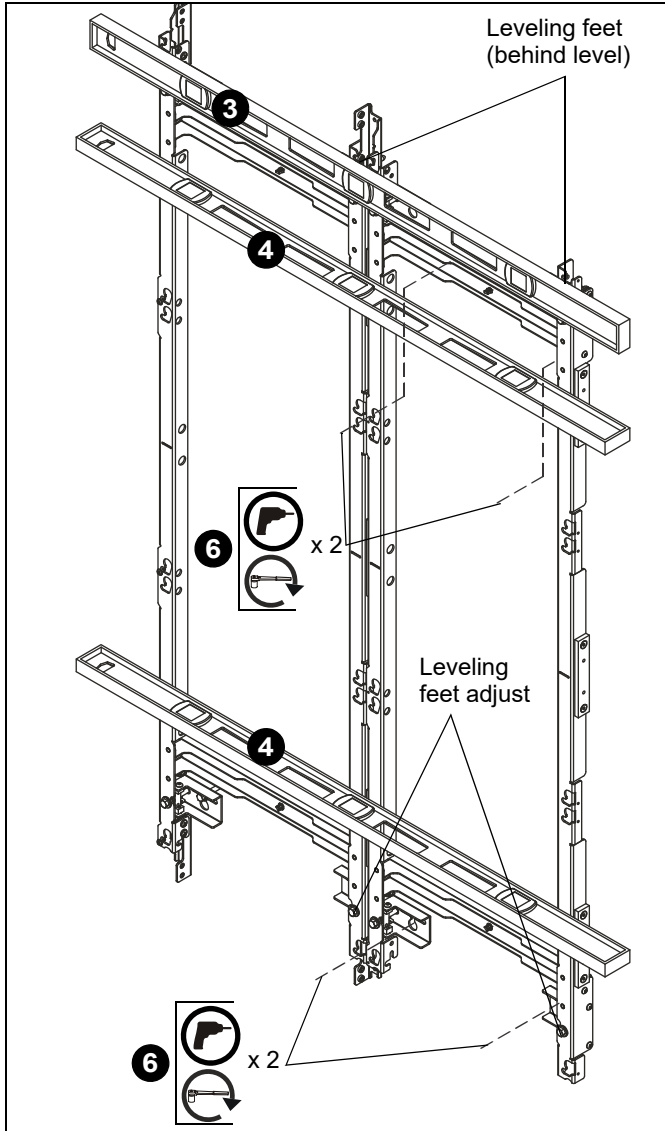

Figure 13
3. Use a level to align the second mount with the first mount. (See Figure 13)
4. Use a level across the front of the two mounts, and adjust the leveling feet on the second mount so that it matches the plumb of the first mount. (See Figure 13)
6. Drill pilot holes in the mounting slots and fasten the second wall mount to the wall following the same steps as used for the first wall mount. (See Figure 13)